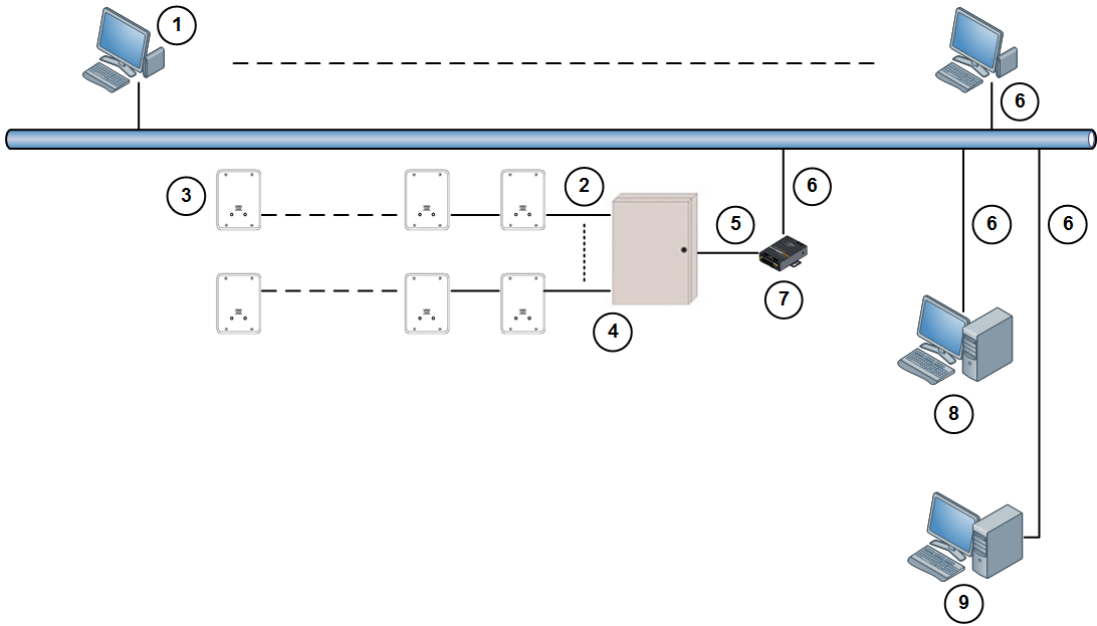
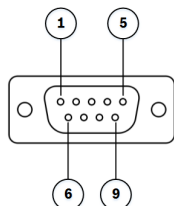

Figure 4.5: Transponder to Lantronix Interface
Figure 4.6: Moxa NPort 5150 Male DB9
* See the corresponding numbers in Figure 4.5, Figure 4.6, and Figure 4.7.